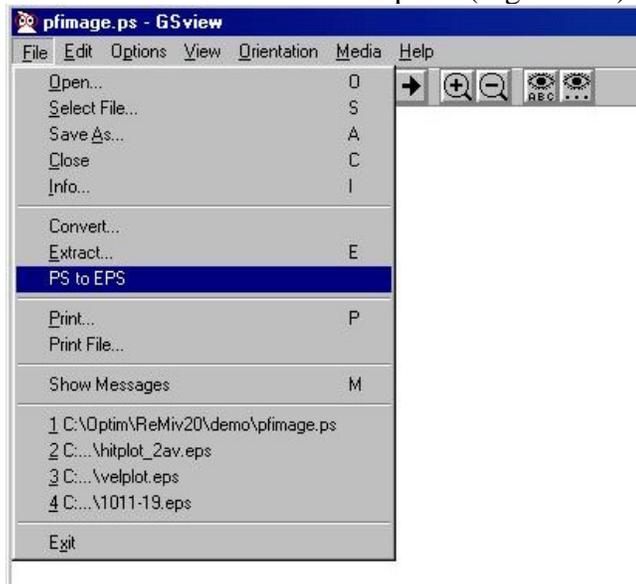

Figure 46b: Choose “PS to EPS” and convert the PostScript image to Encapsulate PostScript format.
5. Go to the “File” menu and select ‘PS to EPS’ option (Figure 46b).